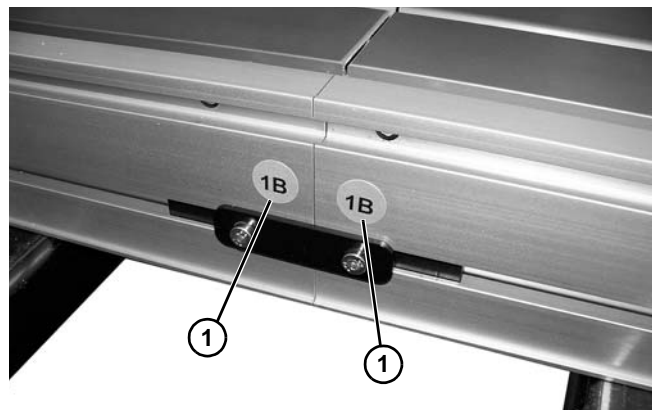

Figure 8
1. Locate and arrange conveyor sections by section labels (Figure 8, item 1).